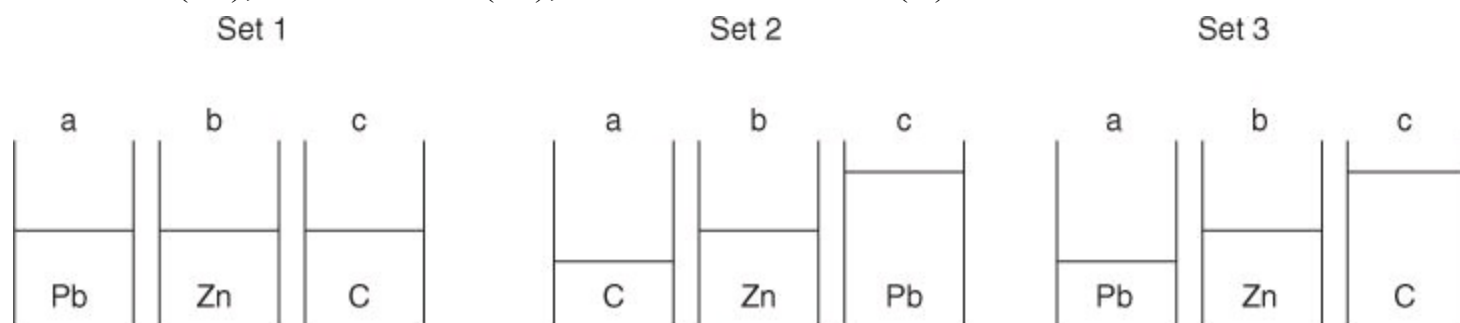

Figure P2.8.3
- *2.8.3.** Which of the three sets of containers in Figure P2.8.3 represents respectively 1 mol of lead (Pb), 1 mol of zinc (Zn), and 1 mol of carbon (C)?